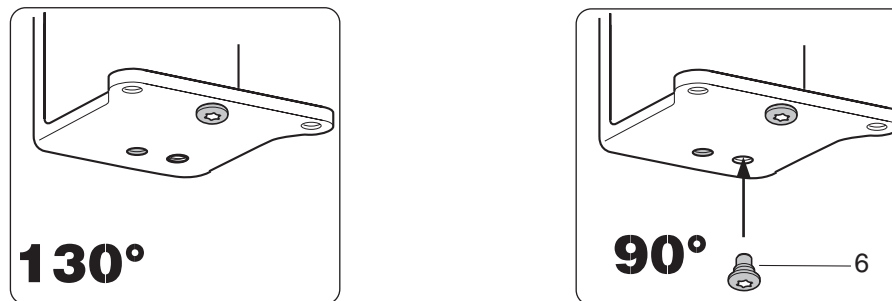

Figure 13
- Insert attached screw (6) in the **lower** hinge as shown in **Figure 13**.